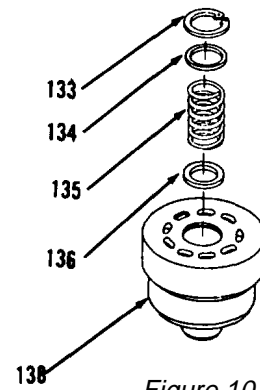

Figure 10-43.
61. Place protective plate over barrel (138) and remove ring (133), spacer (134), spring (135) and spacer (136, Figure 10-43).